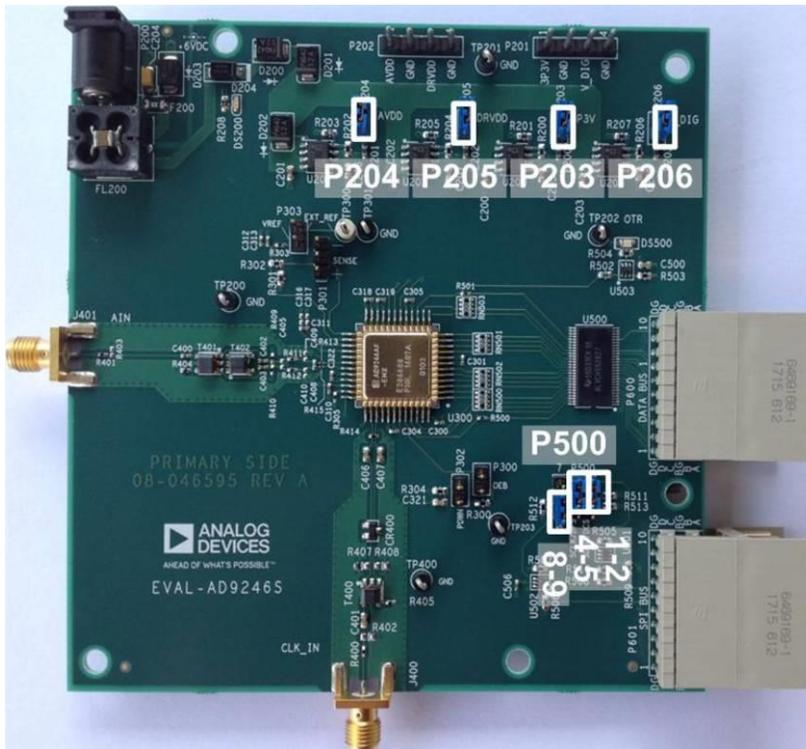

Figure 2. Default Jumper Connections for EVAL-AD9246S Evaluation Board
3. See Figure 2 as well as Table 1 for more details.
Set the jumper settings/link options on the evaluation board for the required operating modes before powering on the board. The functions of the jumpers for the board are described in Table 1. Figures 2 shows the default jumper settings.